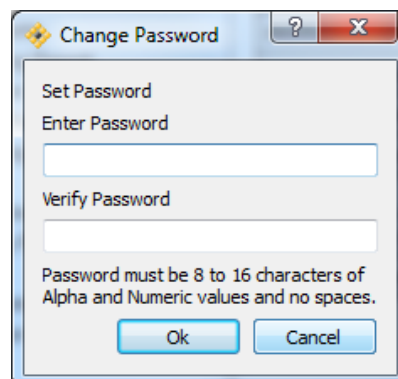

Figure 3.2. Change Password Dialog Box
2. The new File Protection Password must be 8 to 16 alpha and numeric characters, and cannot contain spaces or special characters. If you need to record the new File Protection Password for future reference, choose a secure location. In the Change Password dialog, shown in Figure 3.2, enter the new **File Protection Password** twice and click **Ok**.